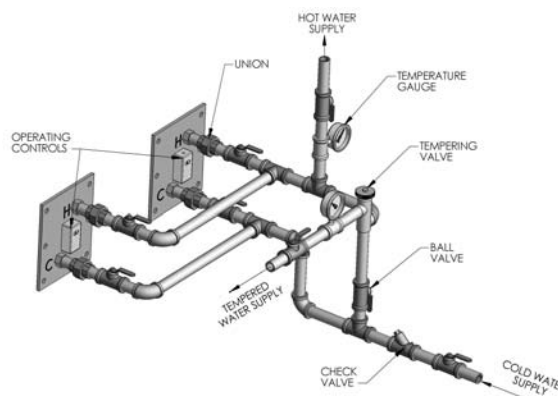

Figure 3.11: Typical Piping for Multiple Tankless Heater Coils
6. Install the operating control in the center tapping on the heater mounting plate. Figure 3.11 shows an acceptable piping arrangement for multiple heater coils.